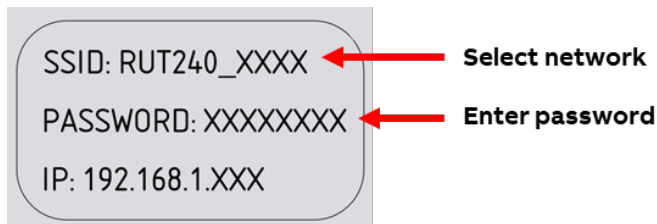
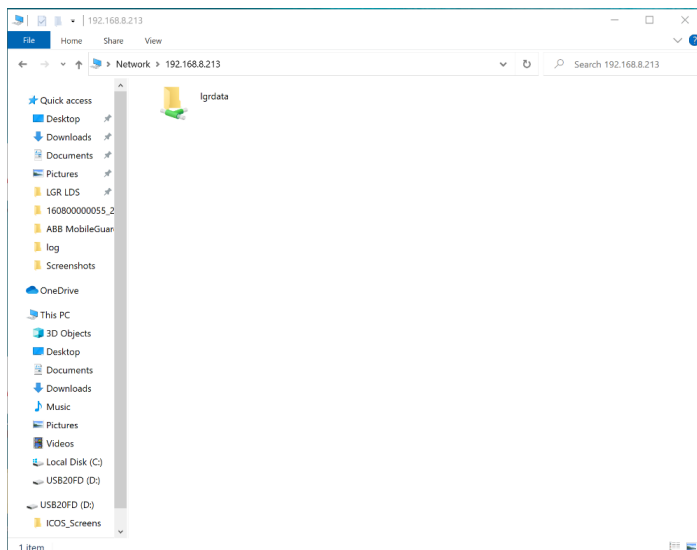

Figure 119 WiFi Access Parameters
Figure 120 Windows File Explorer Window After Access Granted
- 3 From the available network list, select the network (SSID) marked on the analyzer label. It should read: *RUT240_XXXX*, where XXXX varies from analyzer to analyzer. Once selected, enter the corresponding password from the same label for access. The password consists of eight characters (XXXXXXXX) that vary from analyzer to analyzer. (Figure 119)
- 4 Open the Windows File Explorer (not an internet browser) and type in the IP address from Figure 119 into the address bar. The address must be in the form `\\192.168.1.XXX`, where XXX is a three digit number that varies from analyzer to analyzer. After pressing return, the computer has access to a shared data directory in the analyzer (*lgrdata*), as shown in Figure 120.